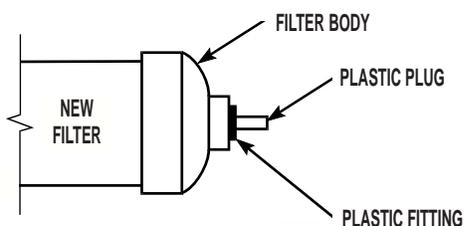

FIGURE 2
4. Your new filter has a plastic plug installed into each end of the filter to keep it clean during shipping. To remove each plug, hold down the plastic fitting against the filter housing and pull the plug straight out of the filter. Discard the plugs. See Figure 2.